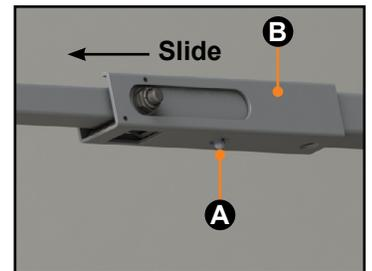

Fig.31
**NOTE:** Some awnings are equipped with a 2-position pitch arm (**Fig.31**). The 2-position arm can be set in the pitch position or snapped into a straight position by pushing the release button (**Fig. 31A**) and sliding the sleeve (**Fig.31B**).